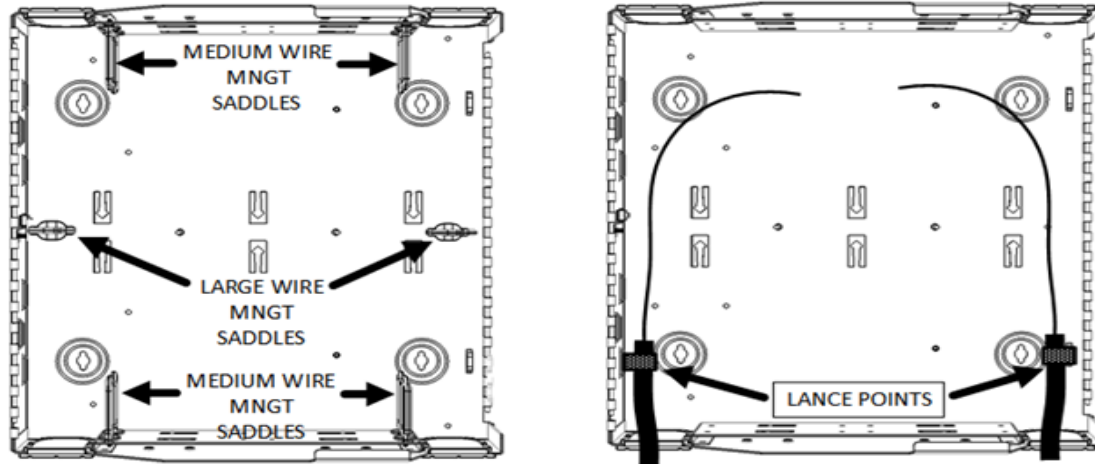

Figure 4
2. Position FOCA saddles as shown in (Figure 4)